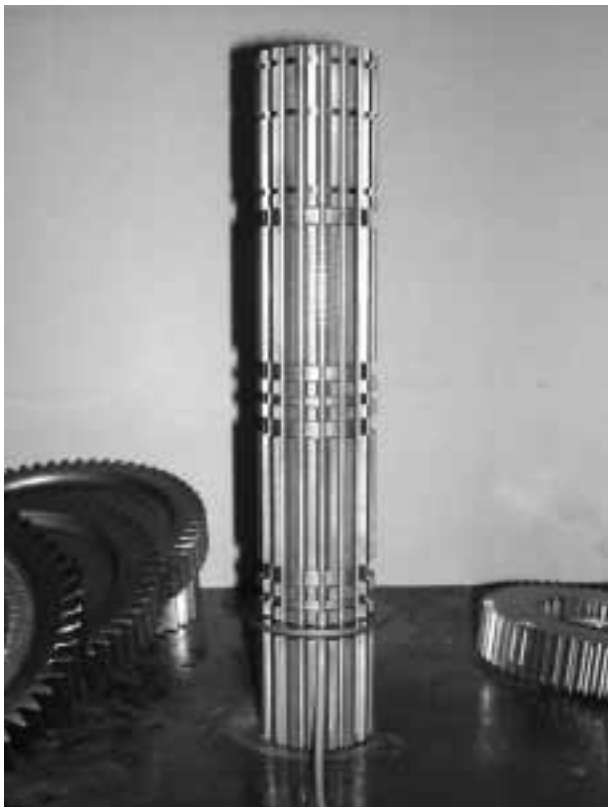

Figure 54 – Fitting OD Limit Washer
- b. Install the overdrive gear limit washer on the mainshaft, flat side up then, rotate the washer in the 1st or bottom groove of the shaft to align the splines. Feed a plastic line up from the bottom to secure the washer (refer to Figure 54).